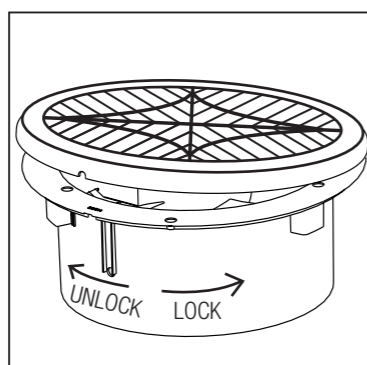

Fig. 6
3. Remove the grille (simply turn anti-clockwise to unlock), see (Fig.6)